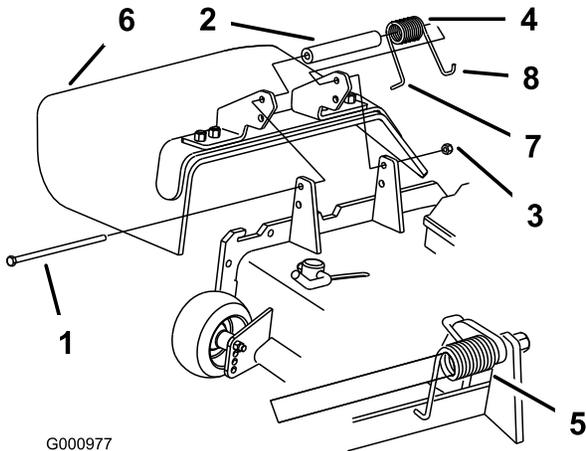

Figure 82
1. Remove the locknut, bolt, spring and spacer holding the deflector to the pivot brackets (Figure 82). Remove the damaged or worn grass deflector.
Note: Make sure the L end of the spring is installed behind the deck edge before installing the bolt as shown in Figure 82.
3. Install the bolt and nut. Place the J hook end of the spring around the grass deflector (Figure 82).